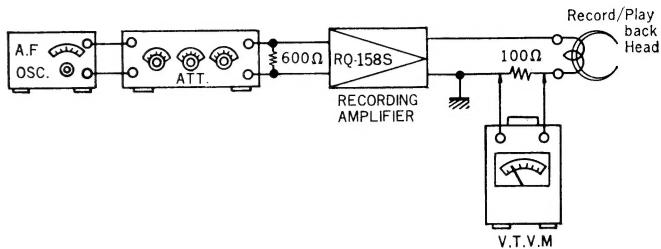

Fig. 6
Measuring Circuit: Refer to Fig. 6.
2. As shown in Fig. 6, connect output of AF Oscillator to Microphone Input Jack of model RQ-158S through Attenuator (terminate with 600 Ω if impedance of attenuator is 600 Ω). Disconnect wiring from ground side of Record Head; insert 100 Ω resistor between lead wire and terminal; connect V.T.V.M. across resistor.